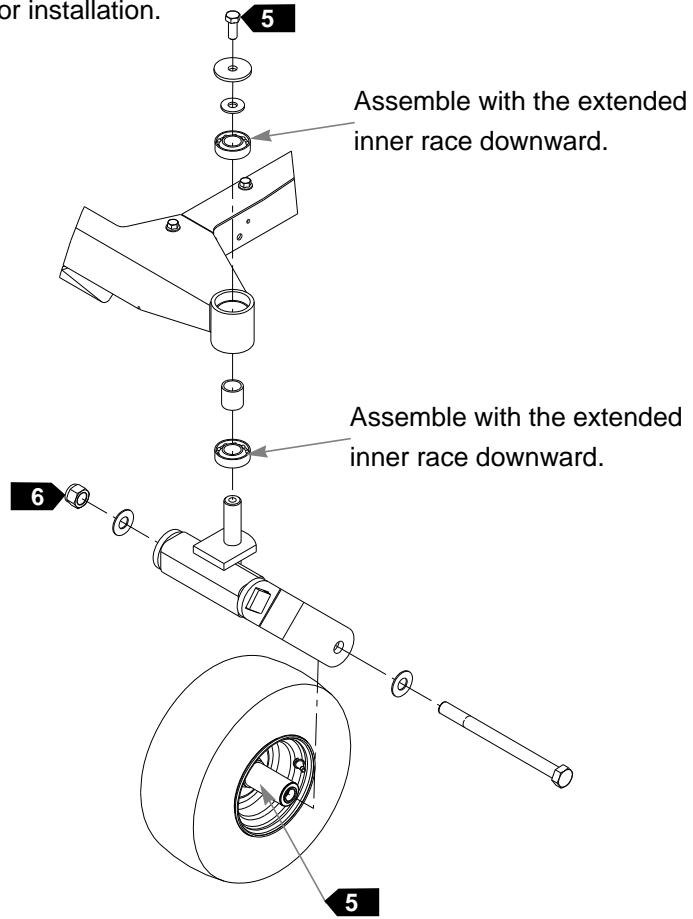

FIG. 1
5. Attach the flex fork to the mower frame using the existing hardware. Make sure that all hardware is replaced exactly as it was removed. Reference Fig. 1 for accurate part placement. Apply one drop of Loctite 242 to the bolt threads. Torque the bolt to 75 ft-lbs.
6. Attach the wheel and tire to the new flex fork using the existing hardware. Tighten the nut, then back it off so the wheel spins freely, Fig. 1.